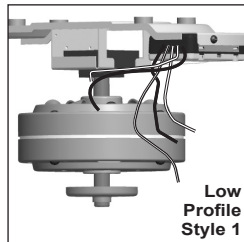

Figure 5
**Low Profile Style I (Figure 5):** Secure receiver to the fan plate above the motor with UL listed cable ties (not included). Connect wiring as shown in Figure 5. Extend antenna through one of the ceiling plate openings (approximately 3-6").